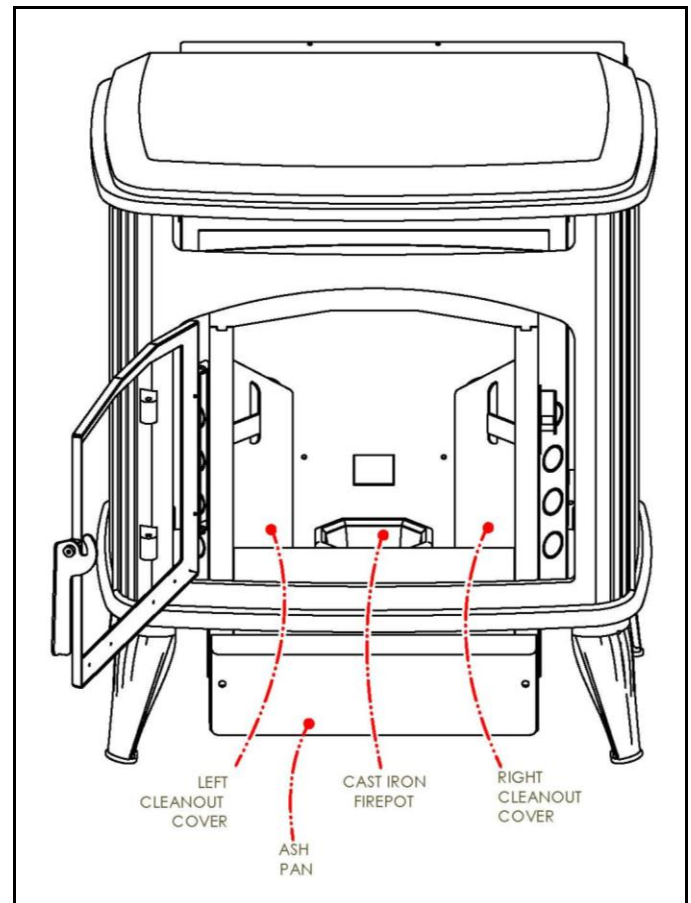

FIGURE 12
- b. Open door and remove clean out cover screws. To remove, simply unscrew and lift out from each side (see Figure 12). Clean one side at a time. With covers removed, leave the door open and push the “Clean” button. Let heater run 30 seconds, push to “Off,” and replace cover. Remove the remaining clean out cover and repeat procedure for other side.
results, run the fan in the "Clean" position with the door open for approximately 45 seconds or until ash is no longer being picked up by the fan. Remember, you must always check the clean out cap on the tee after utilizing the clean feature (see Figure 12). **(See Figure 16 for routine stove clean out and maintenance.)**
Solution: When the pellets are overfeeding, it usually means that the air flow has been reduced. Check the fire pot air intake holes to be sure they are clear. Check to see if fire pot was properly seated in the pot tray. If you use a low-grade pellet and clinkers (fused ash and dirt) form in the bottom of the fire pot and chock the air intake, you might consider changing the brand of pellets to one that burns cleaner. You must let the fire go out before removing and cleaning the fire pot. Never vacuum out the heater when the heater is in operation! The hot ashes can lodge in your vacuum cleaner and cause a fire! You must clean the heat exchanger tubes (see Figure 12) regularly to ensure a good air to fuel ration, thus allowing the heater to "breathe" properly. You must also check the tee and vent pipe to see that they are not clogged and full of ash.